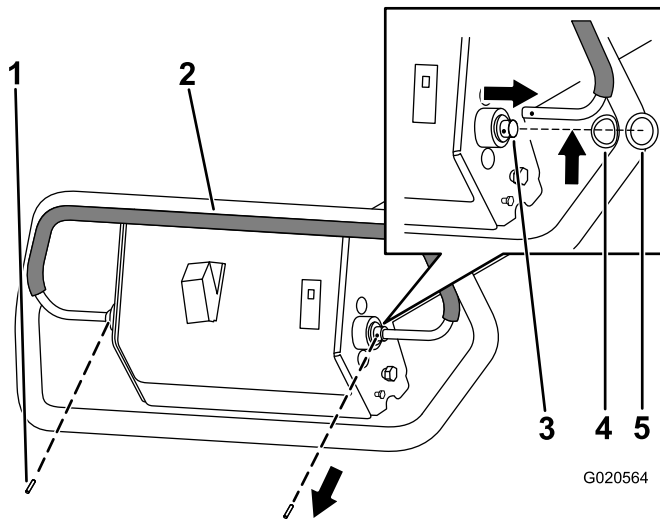

Figure 6
1. Remove the roll pin from the left end of the traction handle (Figure 6).
2. Remove the roll pin from the right end of the traction handle (Figure 6).
3. Lift the left end of the traction handle and move it left until the left end of the handle is free from the pivot shaft (Figure 6).
4. Move the traction handle to the right from the pivot shaft (Figure 6).
5. Remove the traction handle (Figure 6).